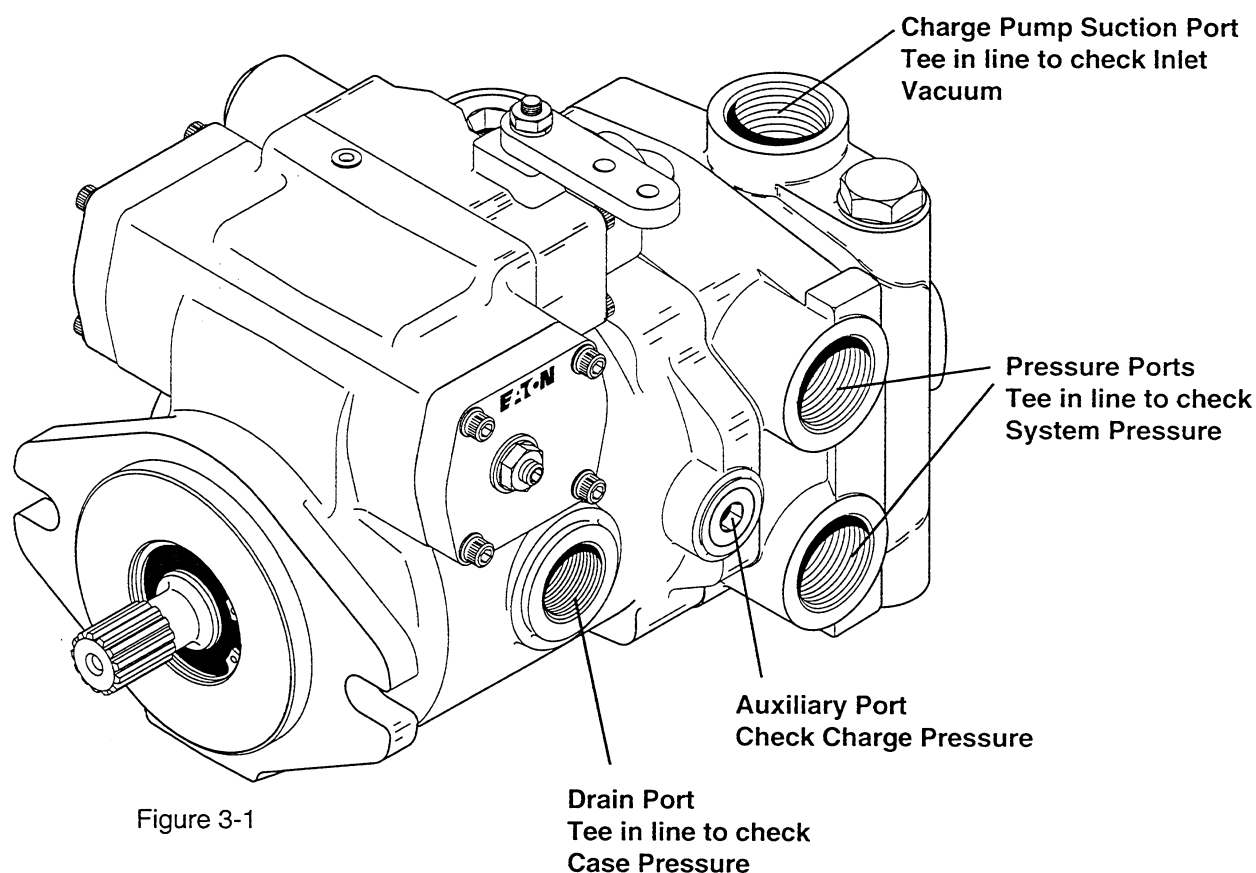

Figure 3-1
- a. See figure 3-1 for location of pressure gauge installation
- a. See figure 3-1 for location of charge pressure gauge installation